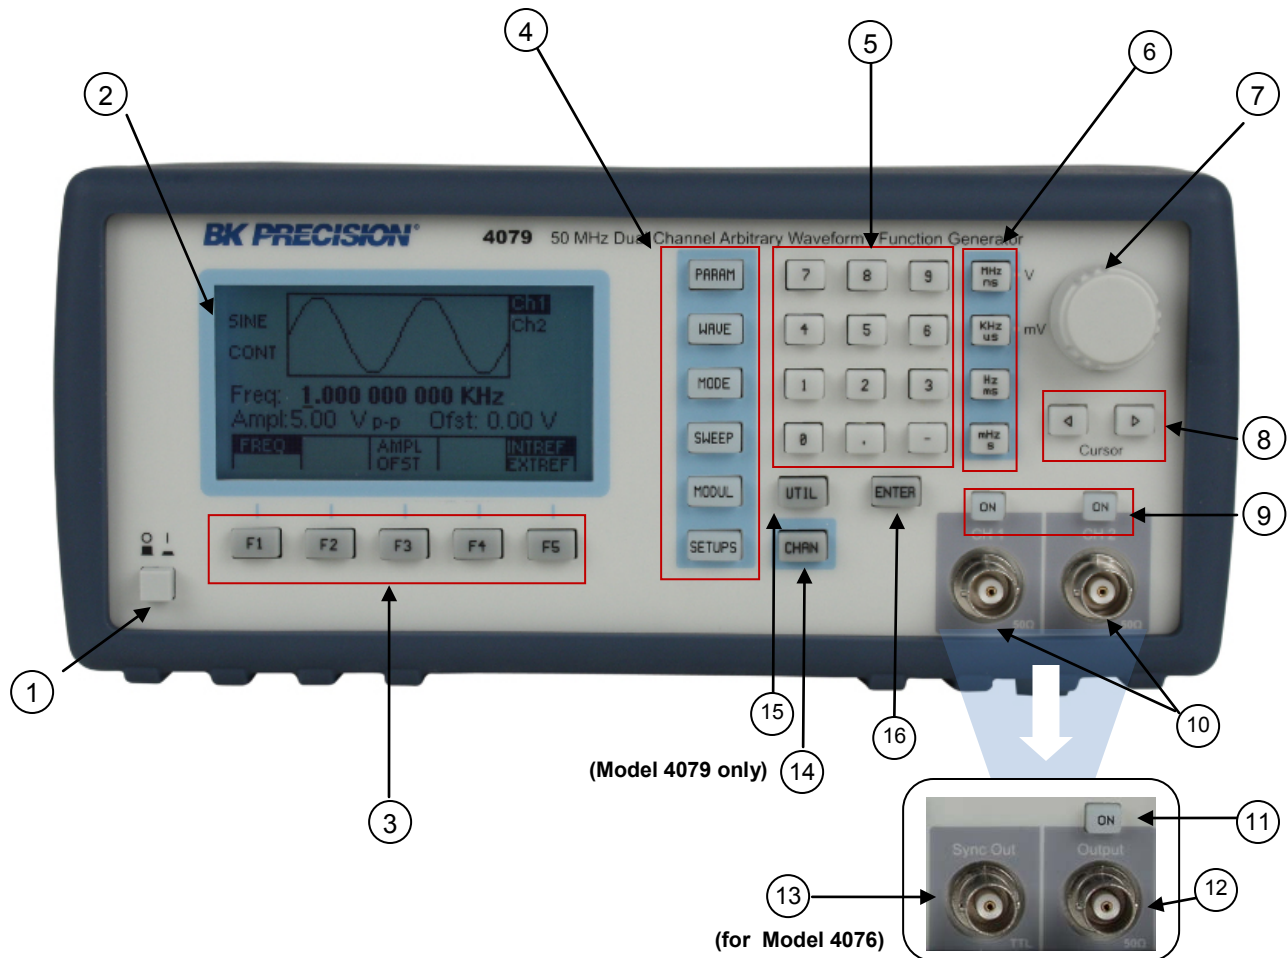

Figure 3.1 - Front Panel View
The front-panel controls select, display, and change parameter, function, and mode settings. They also include the keys you use to program and generate arbitrary waveform output. ***Refer to Figure 3.1.***
2. **CH1 Sync** - This is the sync output of channel one. For model 4076 the sync output is in the front panel of the instrument (see Figure 3.1).
4. **CH2 Sync** - This is the sync output of channel two. For model 4076 the sync output is in the front panel of the instrument (see Figure 3.1).